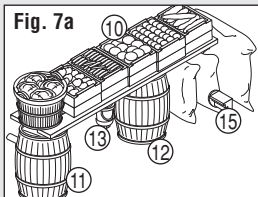

Fig. 7a
- Glue Barrel (11), Pail (13), Barrel (12), and 3 Sacks (15) to Fruit Stand (10) (Fig. 7a).